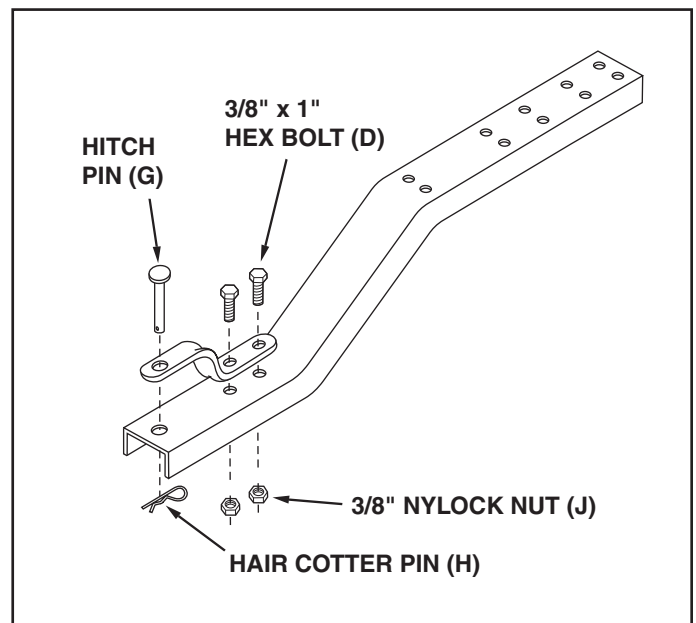

FIGURE 7
9. Assemble the hitch bracket to the tongue using two 3/8" x 1" hex bolts (D) and 3/8" nylock nuts (J). **Tighten.** See figure 7.
10. Assemble the hitch pin (G) through the hitch bracket and the tongue. Secure it with the hair cotter pin (H). See figure 7.